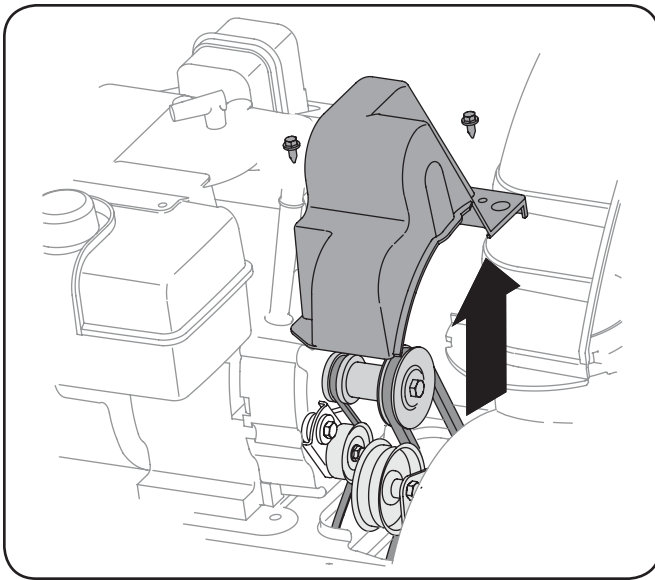

Figure 8-1
2. Remove the plastic belt cover on the front of the engine by removing the two self-tapping screws. See Fig. 8-1.
- Remove the plastic belt cover on the front of the engine by removing the two self-tapping screws. Refer to Fig. 8-1.